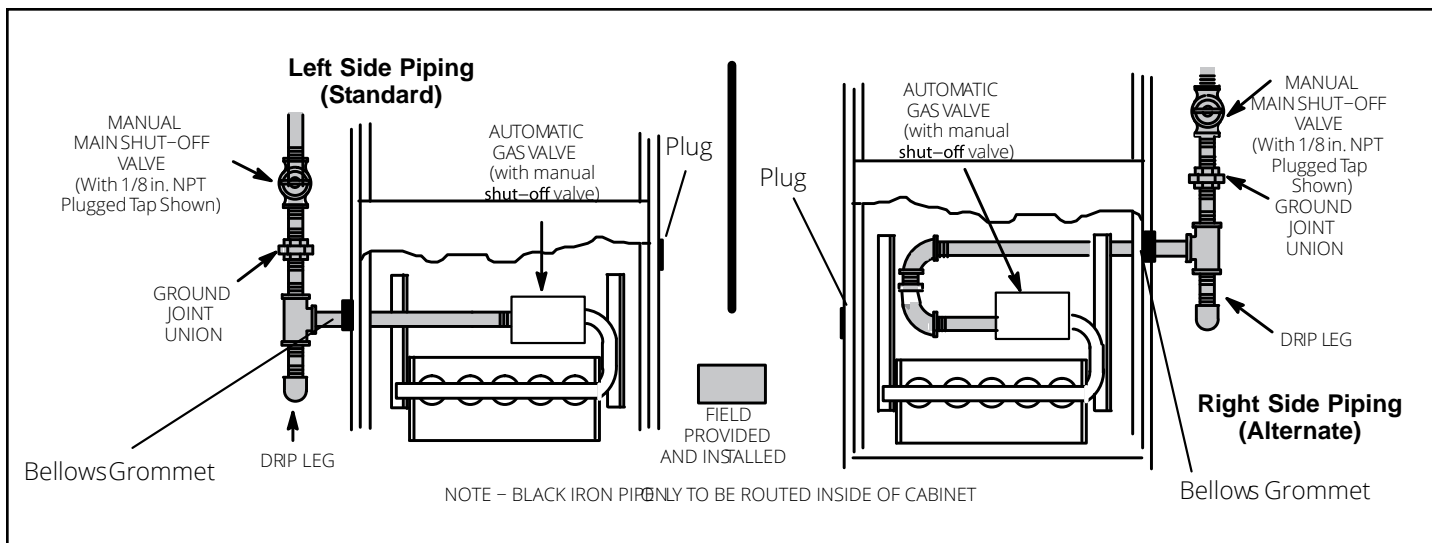

Figure 52.
1. Gas piping may be routed into the unit through either the left or right hand side. Supply piping enters into the gas valve from the side of the valve as shown in Figure 52. Move bellows grommet to side of the cabinet which the gas line enters. Ensure opposite gas line entrance is plugged with supplied plug.
3. Gas piping must not run in or through air ducts, clothes chutes, chimneys or gas vents, dumb waiters or elevator shafts. Center gas line through piping hole. Gas line should not touch side of unit. See Figure 52.